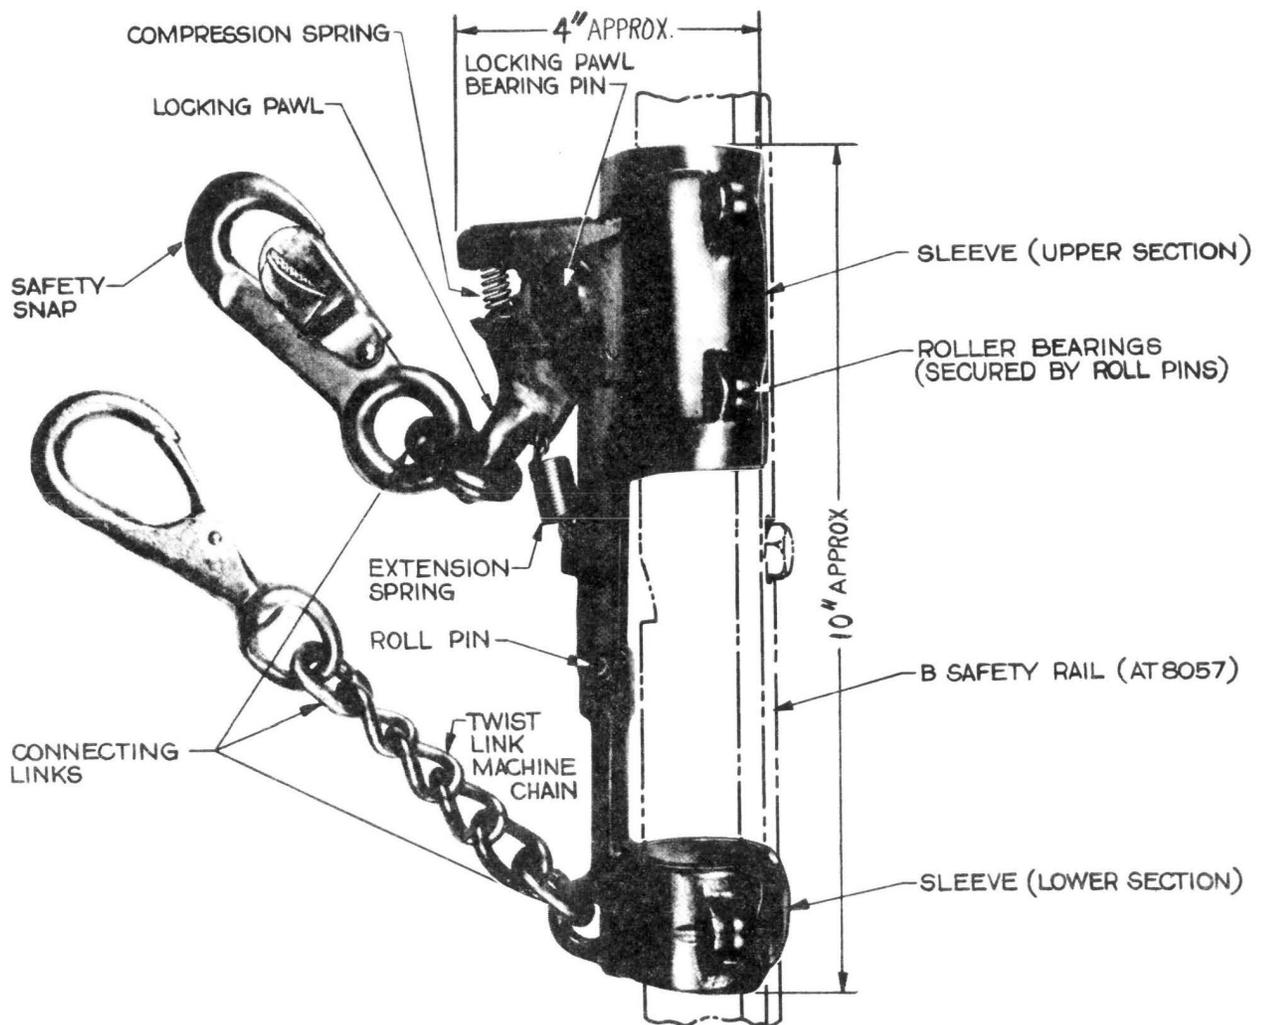
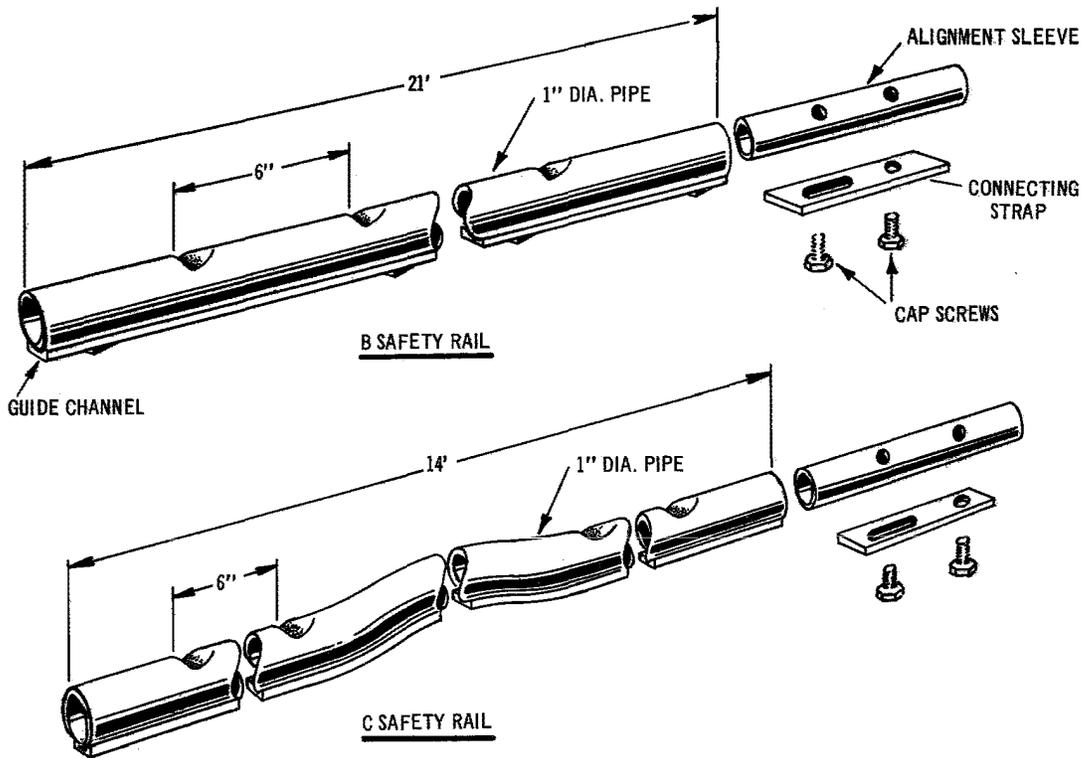

Fig. 1
Fig. 2
2.01 The Tower Ladder Safety Device consists of the B Safety Sleeve, (Fig. 1) the B and C Safety Rail, (Fig. 2) and appropriate mounting brackets and hardware.
2.07 The safety rail is furnished in 21-foot straight sections, designated as the B Safety Rail, and in 14-foot curved sections, designated as the C Safety Rail. (See Fig. 2.)